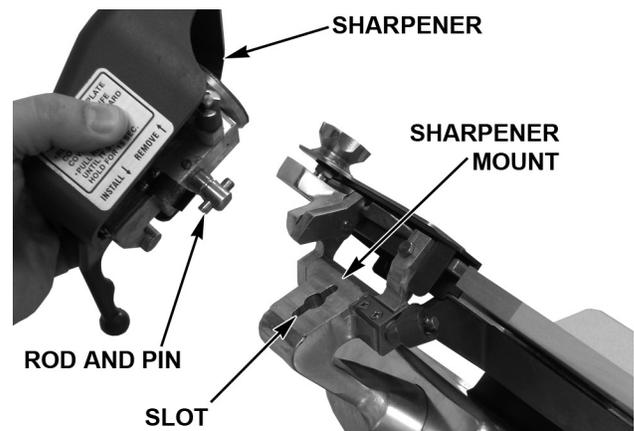

Fig. 16
- Install the Sharpener by lowering it back onto the Sharpener Mount so the Rod and Pin on the bottom of the Sharpener fit the Slot in the Sharpener Mount (Fig. 16).